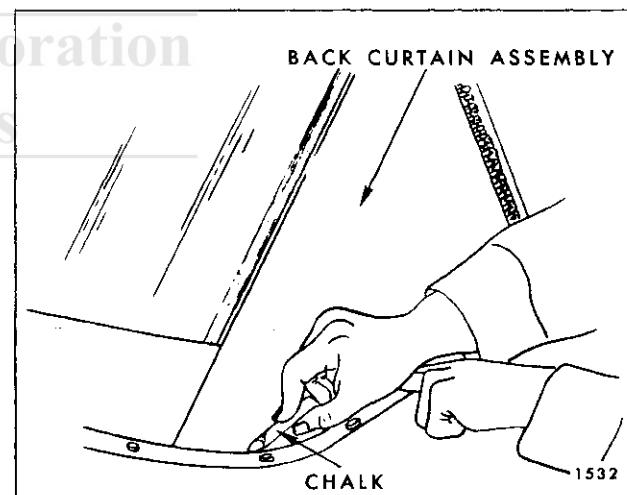

Fig. 13-52—Marking Back Curtain
- Where required, place reference chalk mark on outer surface of back curtain along pinchweld finishing molding. Re-adjust back curtain assembly as required (Fig. 13-52).